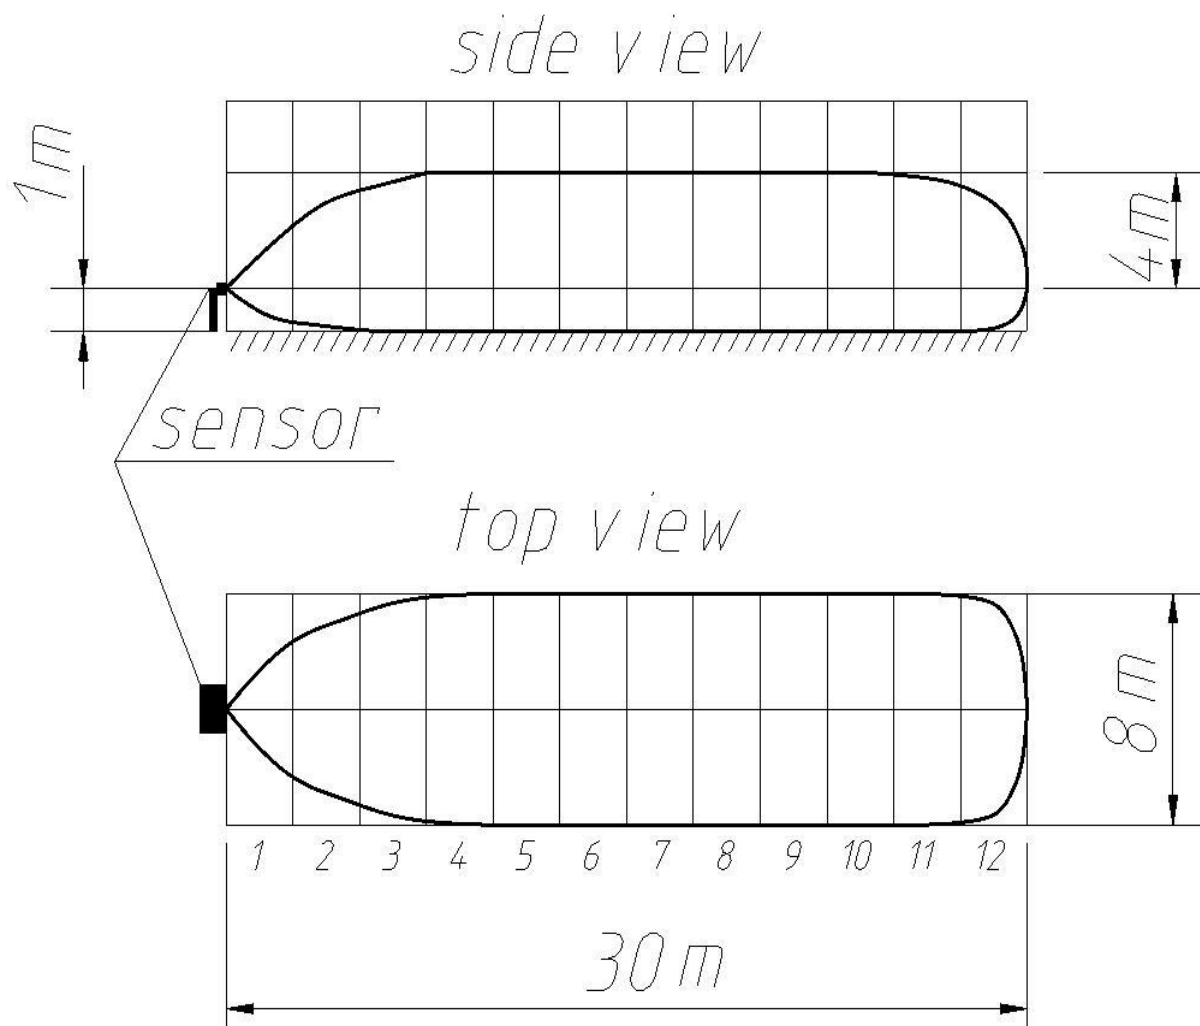

Fig. 8.1 Detection zone parameters of the sensor FM-30
- 8.3.5.** Fix the sensor at a horizontal position (relative to the ground) with the bolt 9. The model of the detection zone form and its dimensions are shown in fig. 8.1.